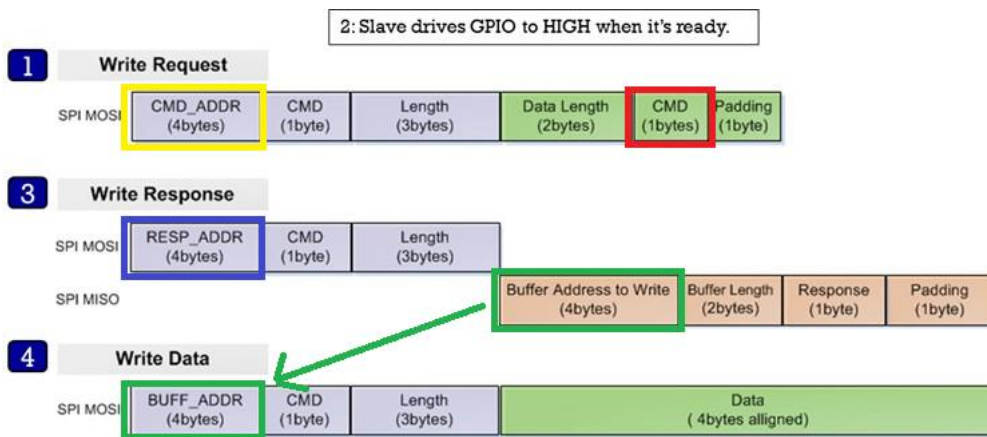

Figure 3. Write operation structure
1. The Host sends a WRITE\_REQ command (0x80, red rectangle in Figure 3) to the General Command address (0x50080254) (yellow rectangle in Figure 3).
3. The Host reads the Write Response message by Response Command address (0x50080258, blue rectangle in Figure 3) and parse it using struct \_st\_host\_response (see Section 3.2.2).
4. The Host sends data to address (BUFF\_ADDR) which is received from the Slave in the Write Response message (green rectangle in Figure 3).